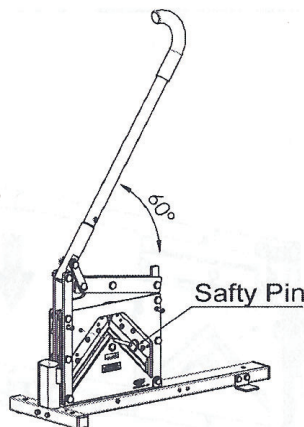

Figure 12
- 2) Lift the Handle approximately 60 degrees up so the Safety Pin can be inserted into the hole. See Figure 12.